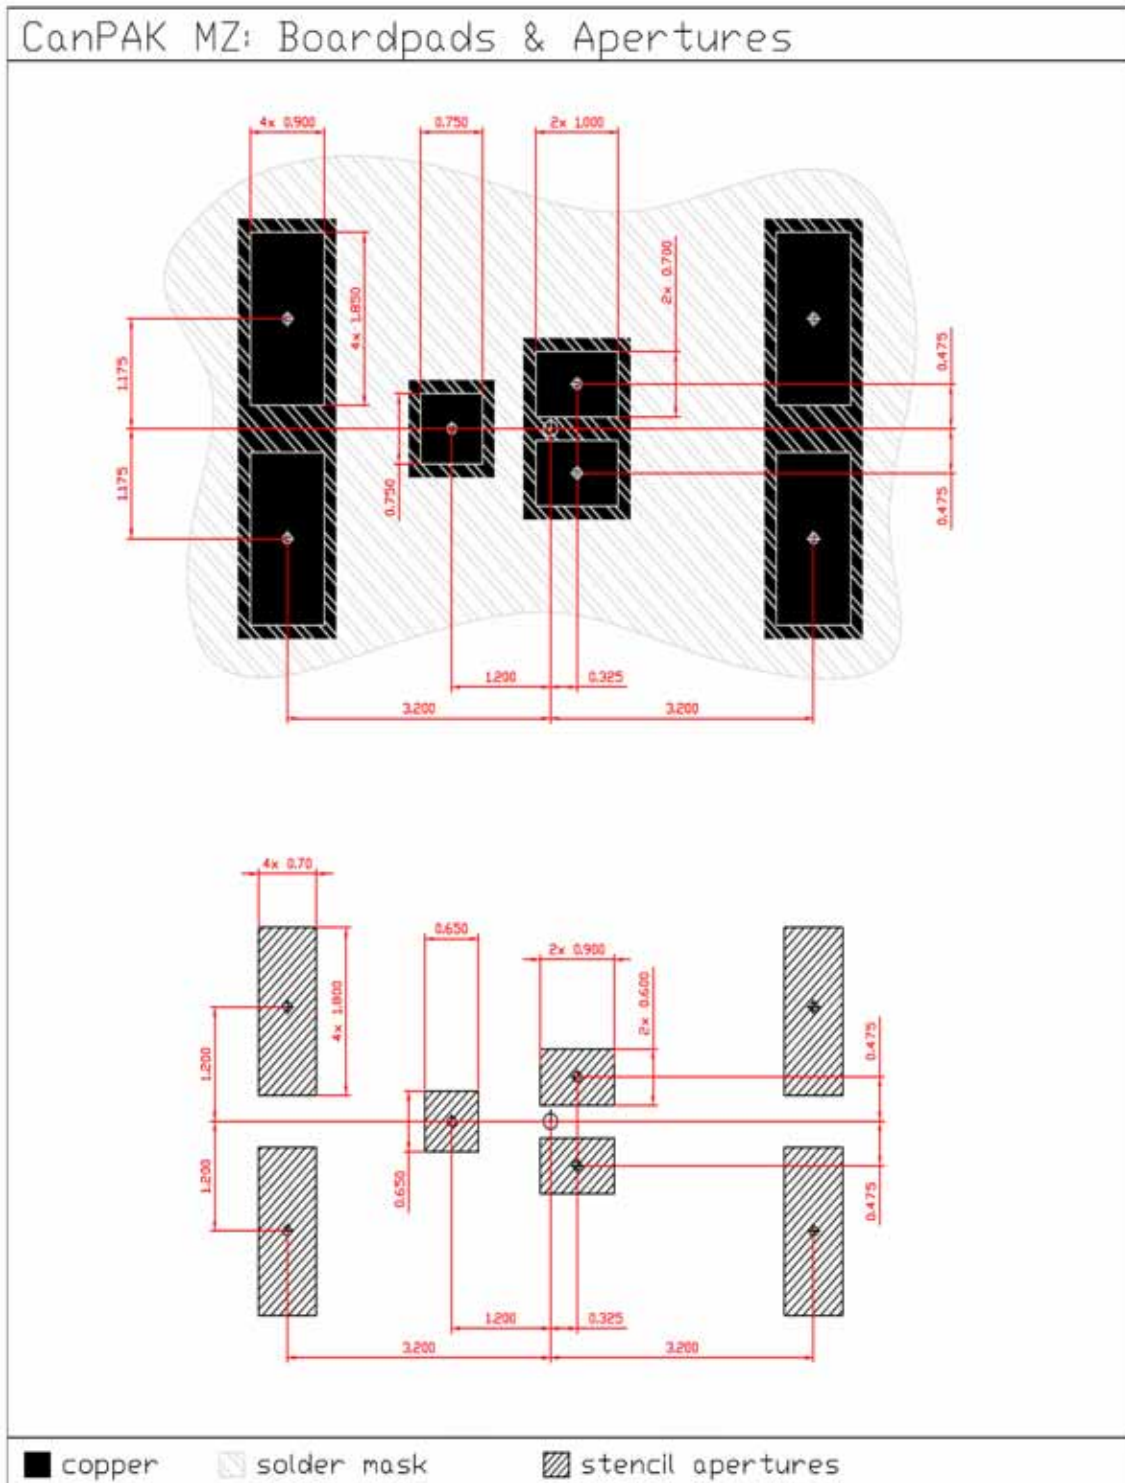

Figure 3 Outlines MG-WDSO-2, dimensions in mm/inches
2) See figure 3 for more detailed information